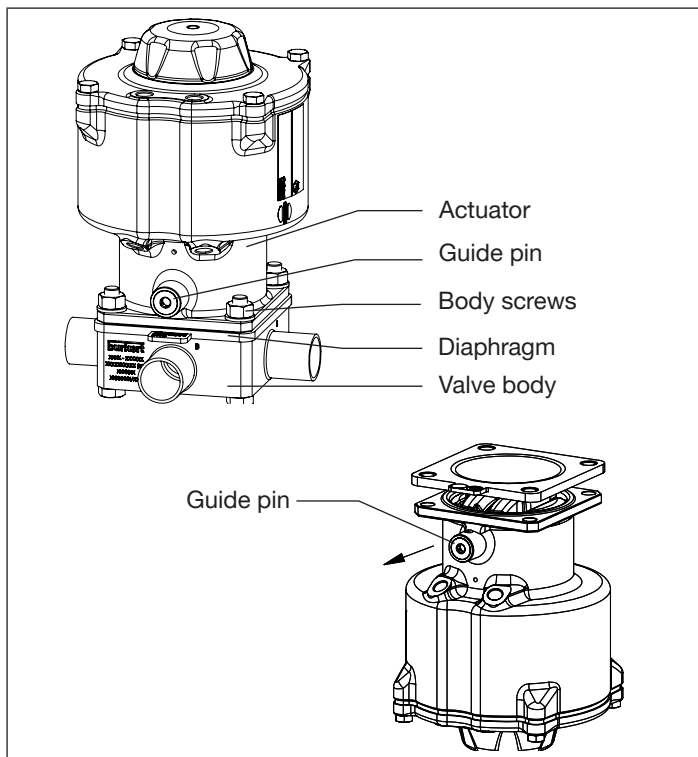

Fig. 18: Repairs
- Screw guide pin all the way in ("Fig. 18").